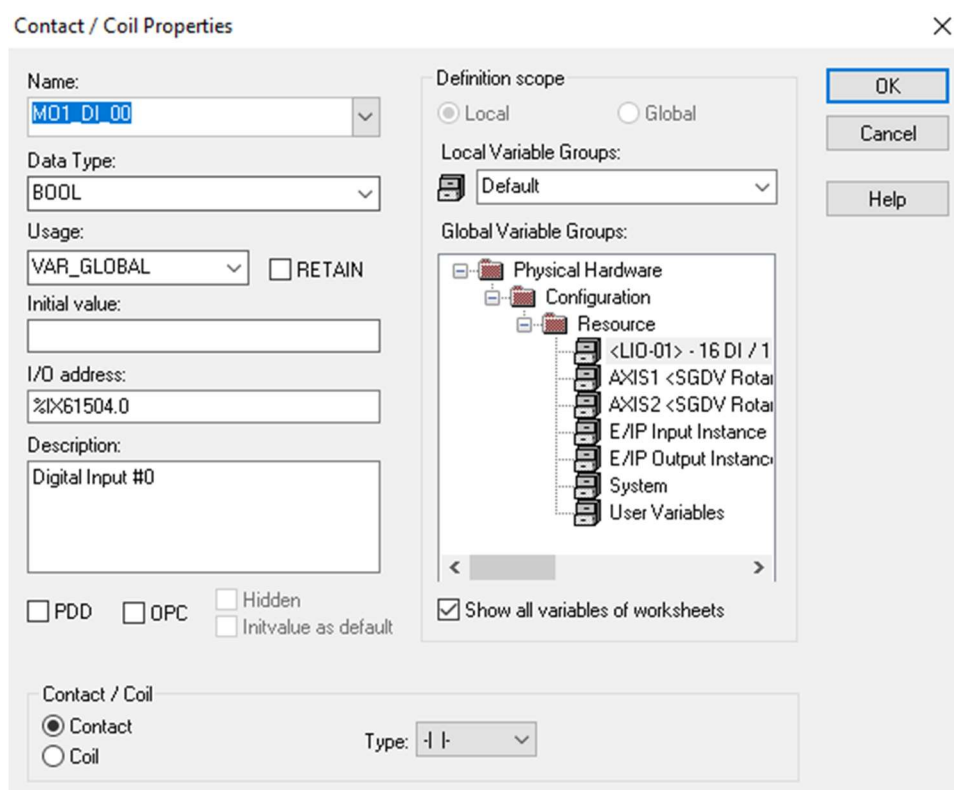

Figure 28: Example Change in Contact Properties
- Clicking on C001 and typing 'MO1_DI_00' as the name, should autofill the I/O address as seen in Figure 28.